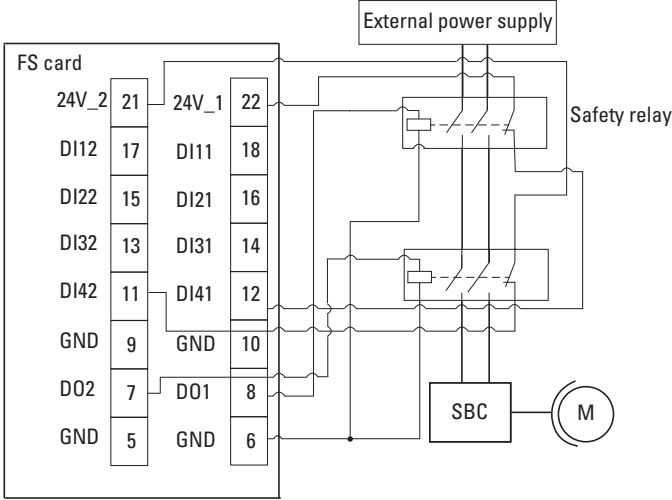

Figure 21: DO terminal connection (DO1 and DO2 work together as two channels)
- If single user terminal is not sufficient for user, DO1 and DO2 could work together as the two channels of one DO as well as shown in Figure 21. At this time, there will be only one Digital output on FS card.